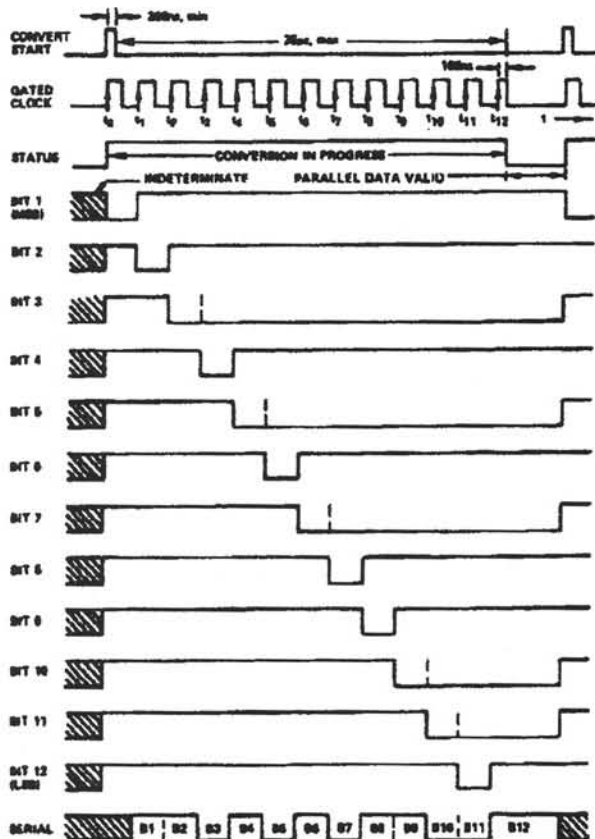

Figure 2. Timing Diagram (Binary Code 110101011001)
The timing diagram is shown in Figure 2. Receipt of a CONVERT START signal sets the STATUS flag, indicating conversion in progress. This, in turn, removes the inhibit applied to the gated clock, permitting it to run through 13 cycles. All SAR parallel bit and STATUS flip-flops are initialized on the leading edge, and the gated clock inhibit signal is removed on the trail-
**Short Cycle Input:** A Short Cycle input (Pin 14) permits the timing cycle shown in Figure 2 to be terminated after any number of desired bits have been converted, permitting somewhat shorter conversion times in applications not requiring full 12-bit resolution. When 12-bit resolution is required, Pin 14 is connected to +5 V (Pin 16). When 10-bit resolution is desired, Pin 14 is connected to Bit 11 output Pin 2. The conversion cycle then terminates, and the STATUS flag resets after the Bit 10 decision ( $t_{10} + 100$  ns in timing diagram of Figure 2). Short cycle pin connections and associated maximum 12-, 10- and 8-bit conversion times are summarized in Table III.
Serial data coding is binary for unipolar input ranges and offset binary for bipolar input ranges. Serial output is by bit (MSB first, LSB last) in NRZ (nonreturn-to-zero) format. Serial and parallel data outputs change state on positive-going clock edges. Serial data is guaranteed valid on all negative-going clock edges, permitting serial data to be clocked directly into a receiving register on these edges. There are 13 negative-going clock edges in the complete 12-bit conversion cycle, as shown in Figure 2. The first edge shifts an invalid bit into the register, which is shifted out on the 13th negative-going clock edge. All serial data bits will have been correctly transferred and be in the receiving shift register locations at the completion of the conversion period.